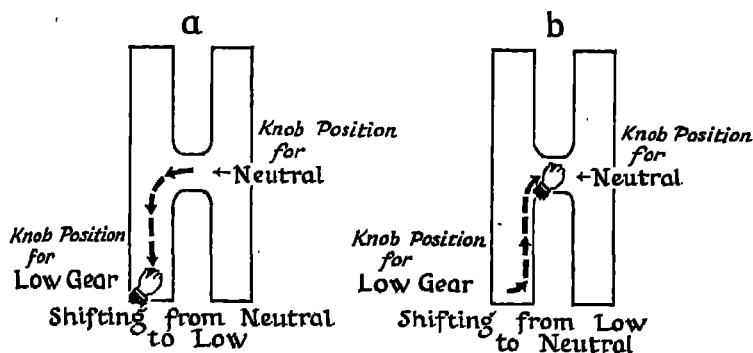
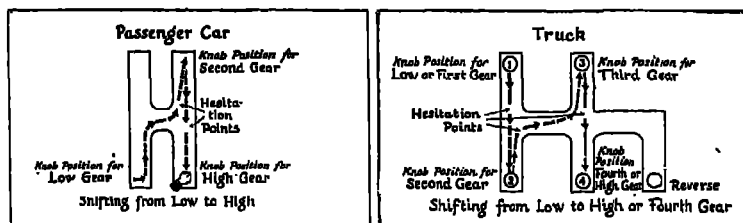

FIG. 170. Practice making these shifts until you no longer have to think out what you are doing.
FIG. 174. Use all forward gears when starting a motor vehicle from rest.
The direction is shown by the dotted line in Fig. 170 (a). On trucks, the gear positions are different because there are four or more forward gears. See Fig. 174.
- d. Shift the gears to neutral, following the dotted line shown in Fig. 170 (b). Keep the gear-shift lever in the neutral position until you are ready to start again. This practice is recommended at all times and is especially important at traffic lights, stop signs, and places where there are pedestrians.
The process of shifting the gears all the way from low to high, for both passenger cars and for trucks with four forward gears, is summarized and diagrammed in Fig. 174. Study the position of the hesitation points. Hesitating at these points will help you make shifting smooth.